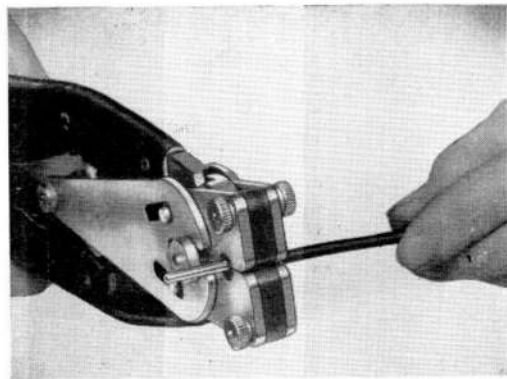

Fig. 2. Crimping operation
19. The preferred method of making the cable termination is by means of crimping (fig. 2), whereby a suitable plug pin, socket insert, ferrule or lug is firmly secured to the conductor, so ensuring good electrical contact. In certain circumstances, as described in